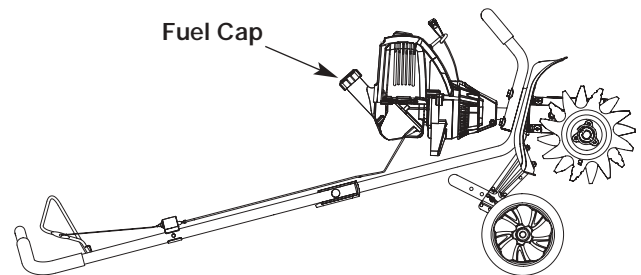

Fig. 9
**NOTE:** Fill or add fuel to the tank only when the cultivator is in a horizontal position (Fig. 9).
2. Place the unit on a flat, level surface to get a proper oil level reading (Fig. 9).